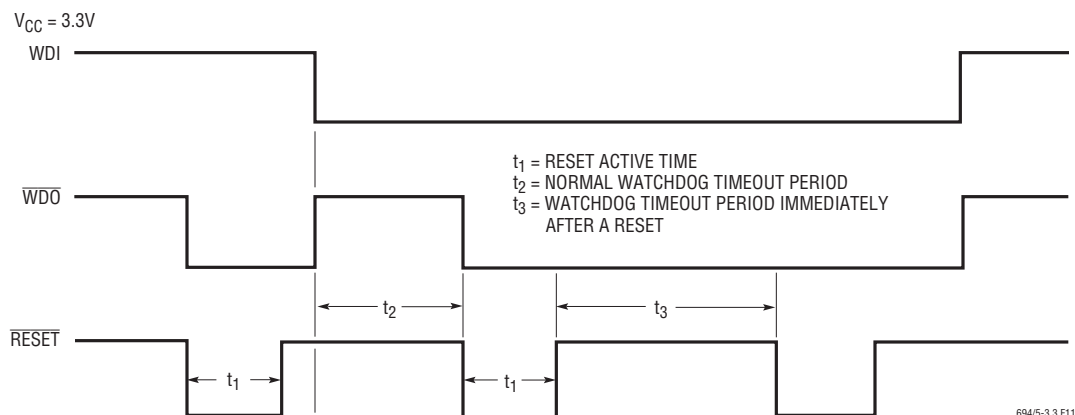

Figure 11. Watchdog Timeout Period and Reset Active Time
**WDI:** Watchdog Input. WDI is a three-level input. Driving WDI either high or low for longer than the watchdog timeout period, forces both  $\overline{\text{RESET}}$  and  $\overline{\text{WDO}}$  low. Floating WDI disables the watchdog timer. The timer resets itself with each transition of the watchdog input (see Figure 11).
**$\overline{\text{WDO}}$ :** Watchdog Logic Output. When the watchdog input remains either high or low for longer than the watchdog timeout period,  $\overline{\text{WDO}}$  goes low.  $\overline{\text{WDO}}$  is set high whenever there is a transition on the WDI pin, or  $\overline{\text{LOW LINE}}$  goes low. The watchdog timer can be disabled by floating WDI (see Figure 11).
The LTC694-3.3/LTC695-3.3 provide a watchdog timer function to monitor the activity of the microprocessor. If the microprocessor does not toggle the watchdog input (WDI) within a selected timeout period,  $\overline{RESET}$  is forced to active low for a minimum of 140ms. The reset active time is adjustable on the LTC695-3.3. Since many systems can not service the watchdog timer immediately after a reset, the LTC695-3.3 has a longer timeout period (1.0 second minimum) right after a reset is issued. The normal timeout period (70ms minimum) becomes effective following the first transition of WDI after  $\overline{RESET}$  is inactive. The watchdog timeout period is fixed at 1.0 second minimum on the LTC694-3.3. Figure 11 shows the timing diagram of watchdog timeout period and reset active time. The watchdog timeout period is restarted as soon as  $\overline{RESET}$  is inactive. When either a high-to-low or low-to-high transition occurs at the WDI pin prior to timeout, the watchdog time is reset and begins to time out again. To ensure the watchdog time does not time out, either a high-to-low or low-to-high transition on the WDI pin must occur at or less than the minimum timeout period. If the input to the